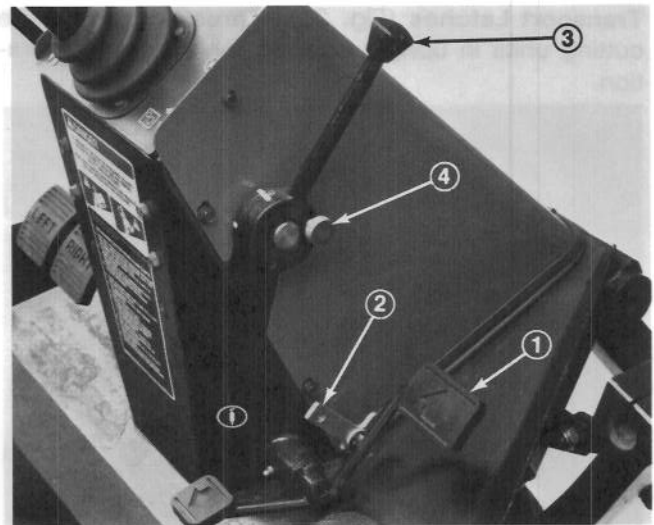

Figure 21
Traction Pedal (Fig. 21) – Controls forward and reverse operation. Depress top of pedal to move forward and bottom to move backward. Ground speed depends on how far pedal is depressed. For no load, maximum ground speed, fully depress pedal while throttle is in FAST. For maximum power under load or when going uphill, keep engine rpm high by having throttle in FAST and traction pedal partially engaged. If engine rpm begins to decrease due to load, gradually reduce traction pedal pressure until engine speed is increased.
Speed Selector (Fig.21) – Cam lever at side of traction pedal can be rotated to maintain desired speed. Rotating
Axle Shift Lever (Fig.21) – Located on right side of console, lever selects front drive mode. Pull out lock-out knob, move lever rearward for mowing operation and forward for transport operation, then release knob to lock selection. Middle position (N) is for towing.